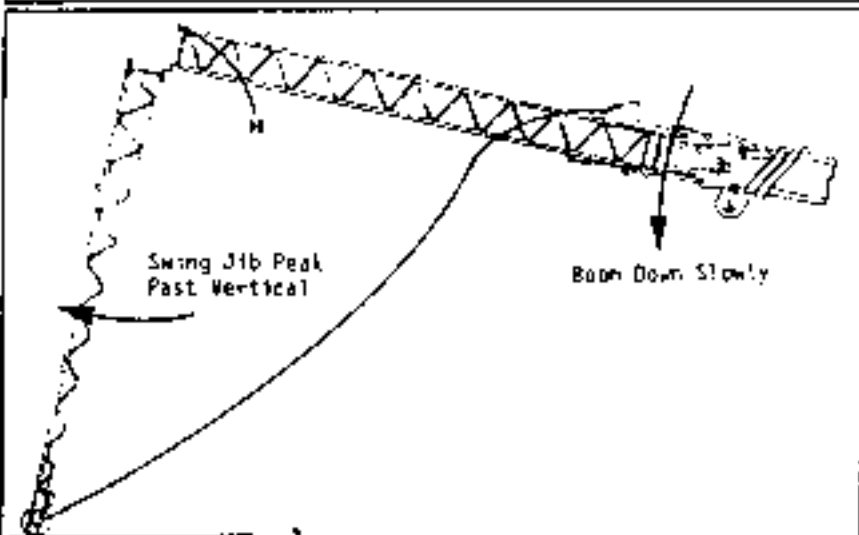

Fig. 4-23 Jib Folding
Step 10: Swing jib top section forward of vertical and carefully boom down until jib sheave rests on ground as in Fig. 4-23. Continue booming down taking care that jib sheave rolls smoothly until lugs at "H" engage.